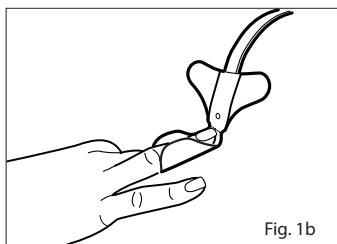

Fig. 1b
3. Refer to Fig. 1b. Press the adhesive wings, one at a time, onto the finger. Complete coverage of the detector window is needed to ensure accurate data.